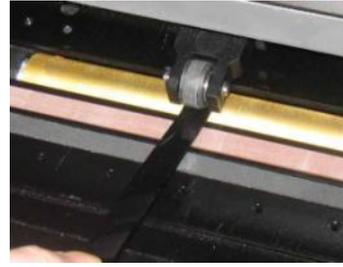

FIG 5-2
7. Remove the backing from a piece of vinyl. Push pinch roller up by lifting part 1 and pushing on part 2 (as in Figure 5-1). Place the piece of vinyl between a pinch roller and drive sleeve with the tacky side down (Figure 5-2). Release the pinch roller at the back.